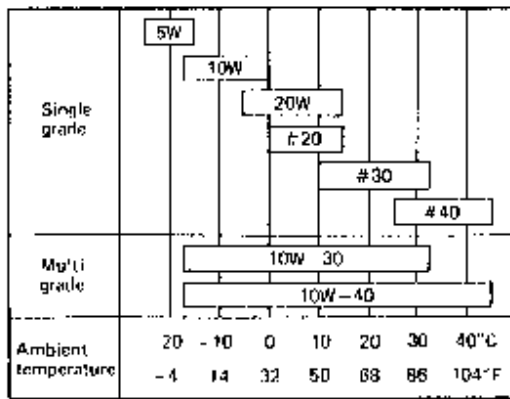

Figure 3-5: Oil Viscosity Grade-to-Temperature Recommendations
- (1) Use Honda 4-stroke oil, or use an equivalent high detergent, premium quality motor oil certified to meet or exceed U.S. automobile manufacturer's requirements for Service Classification SG, SF. Motor oils classified SG, SF will show this designation on the container.
- (2) SAE 10W30 is recommended for general, all-temperature use.
- (3) Other viscosity grades shown in Figure 3-5 may be used when the average temperature in your area is within the indicated range.